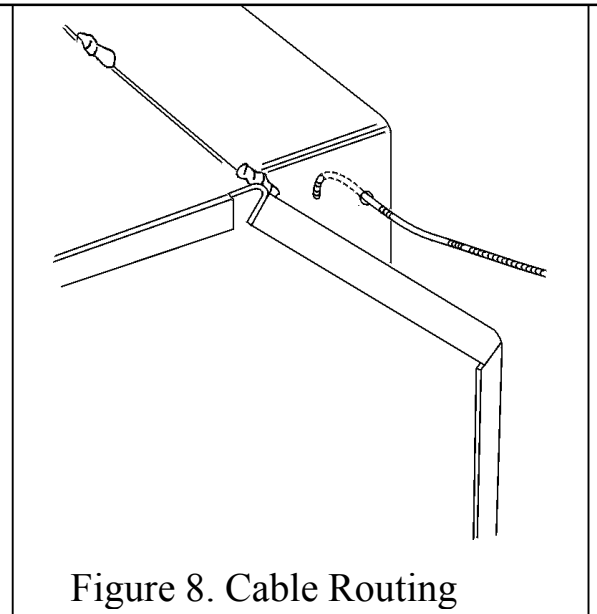

Figure 8. Cable Routing
5. The convector box has a debris deflector. There are two small holes in both sides of the debris deflector. Insert one end of each cable (one cable each side) through the lower of the two holes and return the end through the upper of the holes. See figure 8. Give the cables a pull so that they are secure.